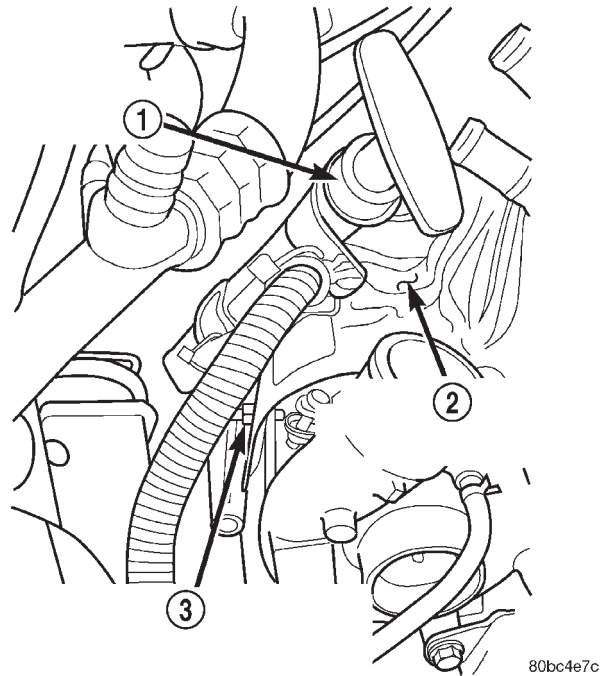
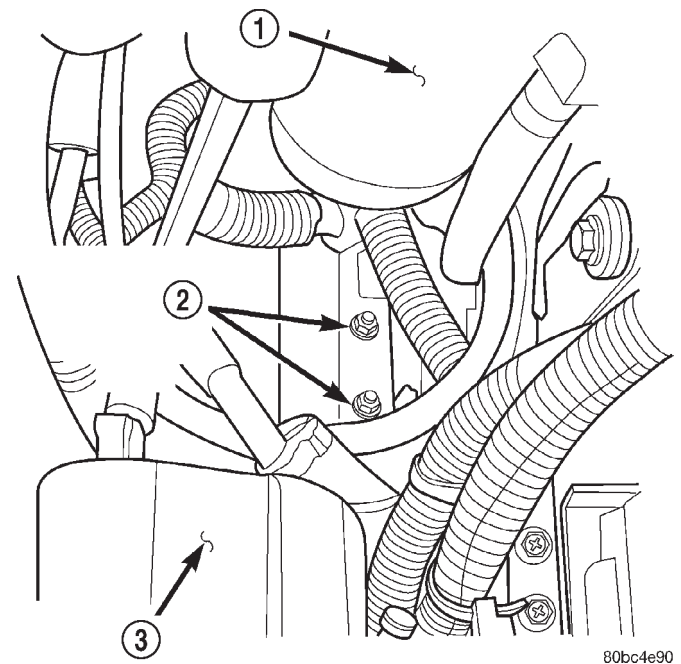

Fig. 28 Transmission Dipstick Tube Support Bracket
Fig. 29 Wire Harness Mounting Bracket
(26) Lower the vehicle on the hoist.
(27) Install the transmission dipstick tube support bracket retaining nut on the turbocharger heatshield (Fig. 28). Torque the nut to 25 N·m (221 in. lbs.).
(28) Connect the A/C compressor clutch and glow plug harness electrical connectors.
(29) Connect the black and gray 10-way electrical connectors and clip connectors on the wire harness mounting bracket.
(30) Install the wire harness mounting bracket and retaining nuts on the left engine mount (Fig. 29). Torque the nuts to 25 N·m (221 in. lbs.).
(31) Connect the fuel supply and return hoses on the engine assembly.
(32) Connect the speed control servo vacuum supply hose on the engine mounted steel vacuum source line.
(33) Install the battery feed wire on the top of the generator and install the cover.
(34) Connect the generator field wire connector on the rear of the generator.
(35) Install the vacuum supply hose on the engine mounted steel vacuum source line.